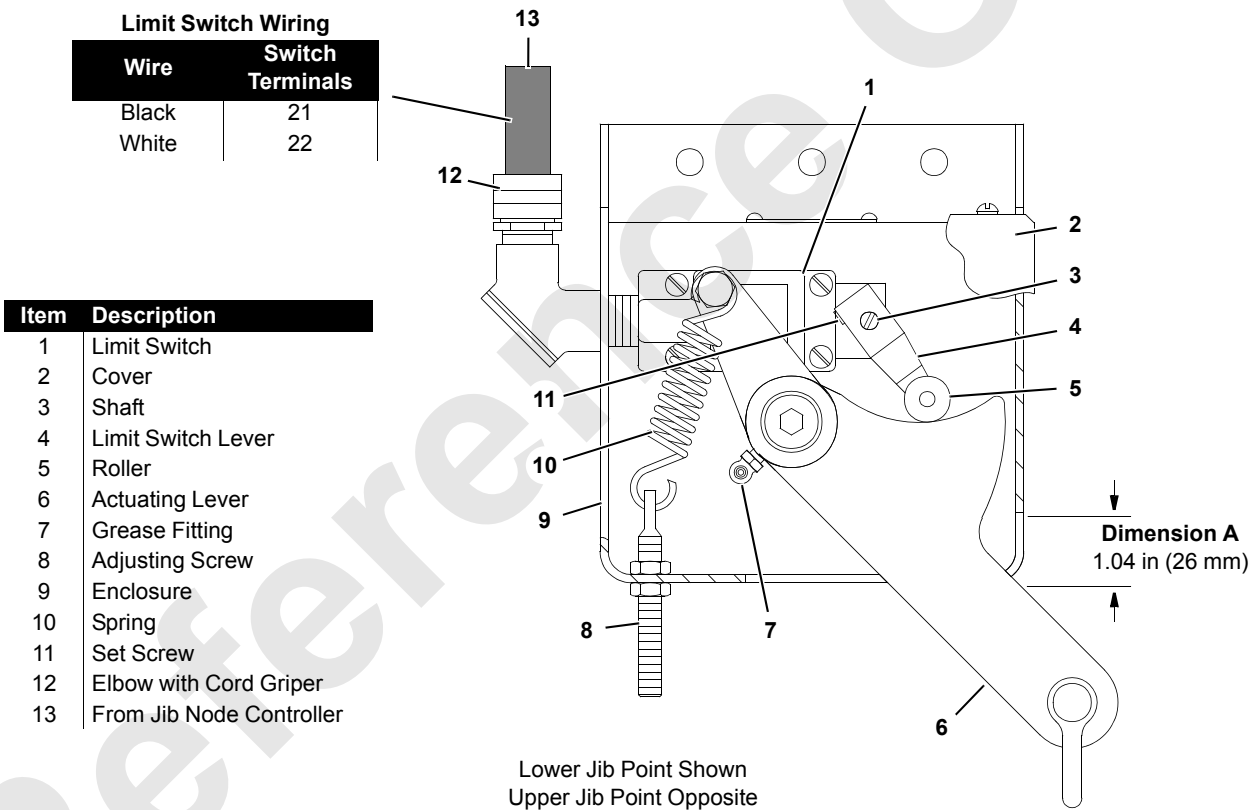

FIGURE 6-10
- a. Inspect each limit switch lever and actuating lever (Figure 6-10) for freedom of movement. Apply one-half shot of grease to the fitting on the actuating lever. Wipe away any excess grease.
- f. Check that all cables and terminating plugs (Figure 6-10) are securely fastened.
See Figure 6-10 for the following procedure.